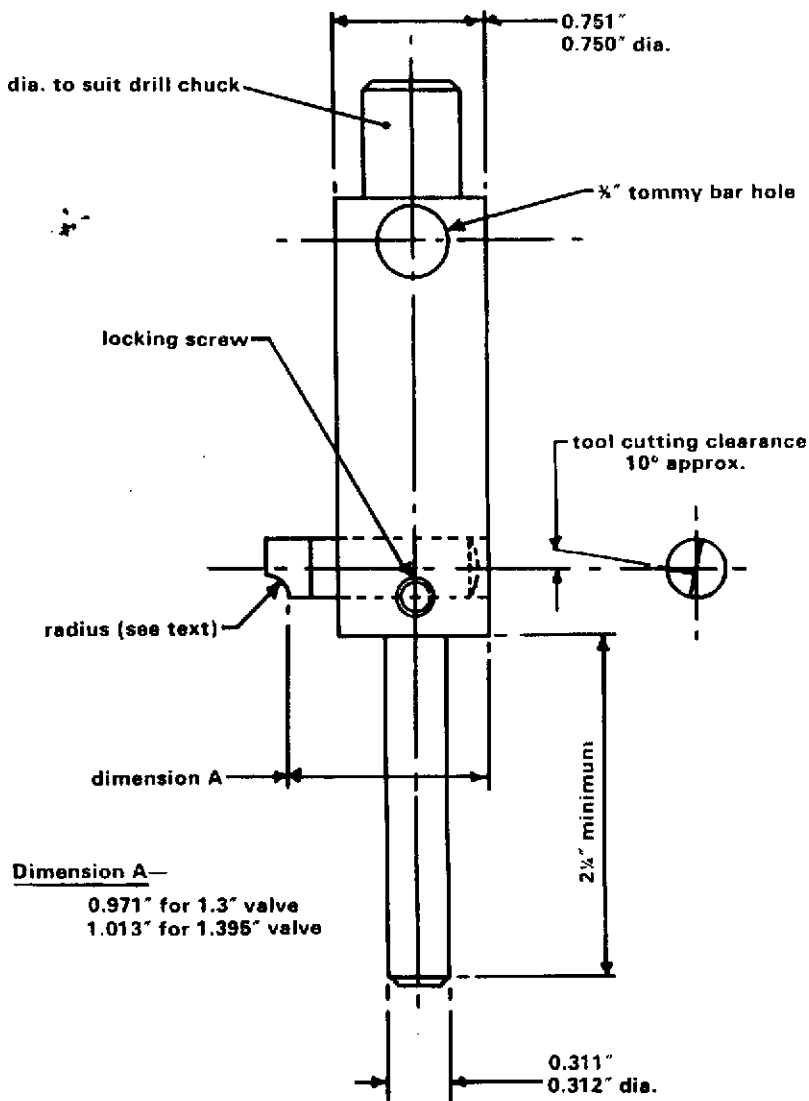
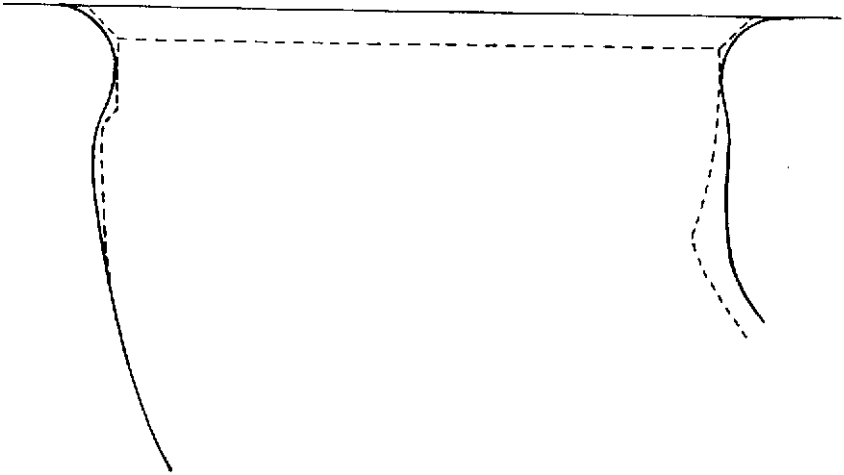
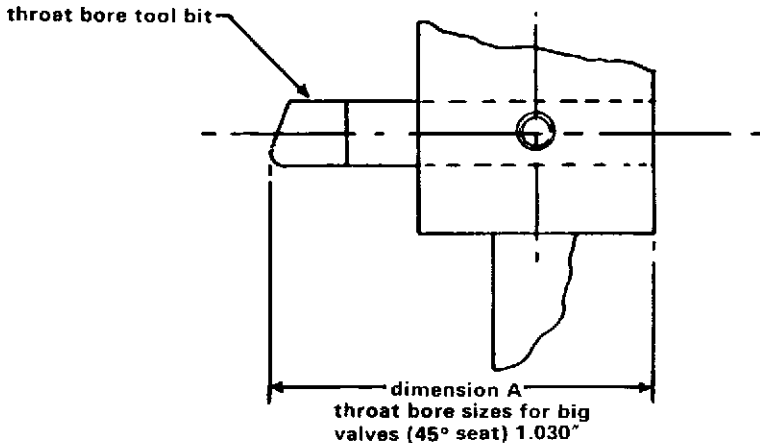
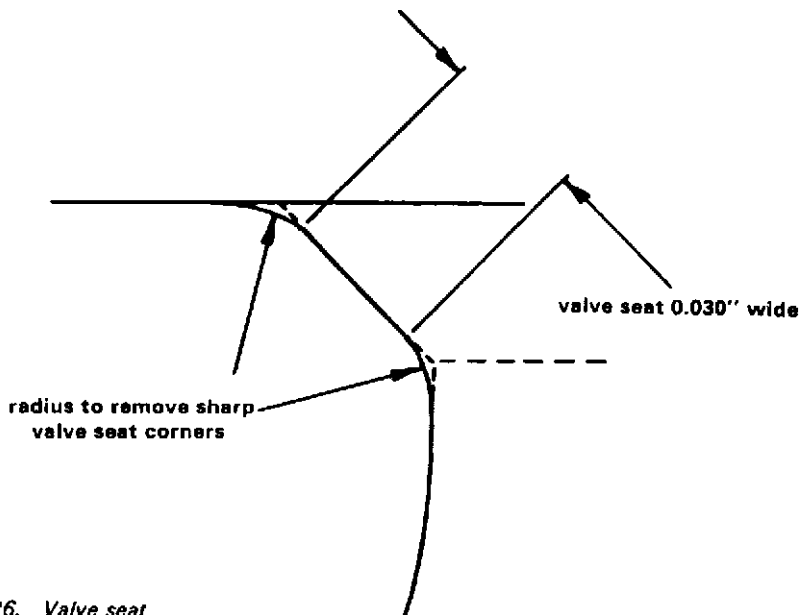

Fig. 21. Valve seat radiusing tool.
Fig. 22.
Fig. 25.
Fig. 26. Valve seat.
If you decide to use radius valve seats on the inlet side, then a different approach is required. To start with, you will need to make up a special radius valve seat cutting tool, the details of which are shown in Fig. 21. The seat radius we are going to use is 0.125" and to make sure the tool bit is accurately formed to cut this radius, the correct method of approach should be used. Firstly the tool bit is best made up from an old centre drill of 5/16" or so diameter. Using an off-hand tool grinder, rough out the general shape of the tool. Mount a piece of 1/4" diameter mild steel bar in a lathe or drill chuck and coat it with fine lapping paste. Rotate the bar and press the roughed out form of the radius against the
bar. Distribute the wear on the bar by moving the tool bit up and down the length of the bar. Whilst accurately forming this radius, be sure to hold to tool bit at a slight angle, approximately 10° , to the bar to give the tool a cutting clearance. Once the tool has been made up, set it in the tool holder to the dimension shown in Fig. 21. Using a pillar drill set on a slow speed to avoid tool chatter, cut the seats. Now back to the -grinder and blend the radius seat into the port as shown in Fig. 22. At this stage in the proceedings you will have to leave the head and turn your attention to the inlet valves. The idea here is to reshape the valves to assist our gas flow. It may seem strange at first sight, but tulip valves do not always give the best gas flow characteristics. To get better cylinder filling we must reduce the tulip shape to something more along the lines of the head of a nail. Fig. 23 shows the shape we should
fitted into the tool holder as shown in Fig. 21. should be used. The setting dimension (A) will be 1.030". The tool setting to bore the correct size for a 1.395" diameter valve is shown in Fig. 25. This will give us a throat diameter immediately under the valve of 1.310" diameter. Boring out the throat also means we stand a very good chance of completely removing the small step which occurs just under the valve seat on the majority of heads. When the port has been bored to a depth of 1/8" to 3/16" blend out any irregularity with the finished part of the port. Cut the valve seat and lap in the valves. Now comes a tricky bit; put a small radius on the inner edge of the valve seat thus breaking the sharp corner formed by the seat at the port (Fig. 26). In doing so, this should reduce our seat width to about 0.030'.
For those of you who are brave enough to tackle radius seats, you will need the tool holder and radius cutting tool shown in Fig. 21. For this particular application, the radius of the cutting tool should be 0.140" instead of the 0.125" shown in the drawing. Our setting dimension will also be different.
Before you remove the inlet guides from the head to grind the ports, the radius seats should be roughed out. The setting dimension for roughing out the seats, dimension A in Fig. 21, will be 1.003. Once the seats have been roughed out, the guides can be removed and the ports ground to the required form as in Fig. 27 and polished. New modified guides are then fitted and the seats finished off. To do so, the radius seat cutter, dimension A, must be reset to 1.013" and carefully recut. The finishing procedure em